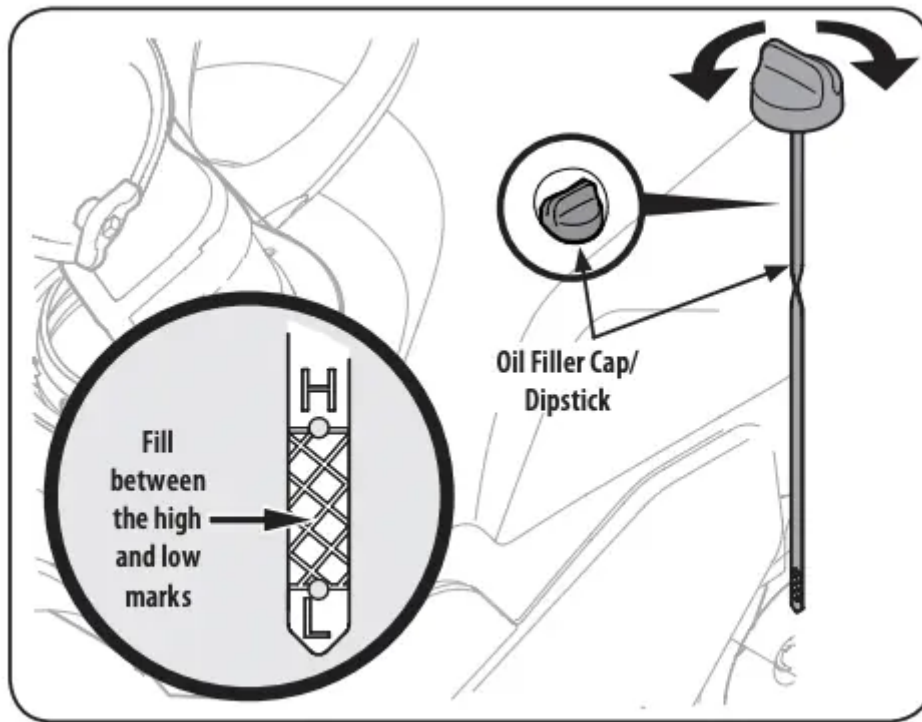
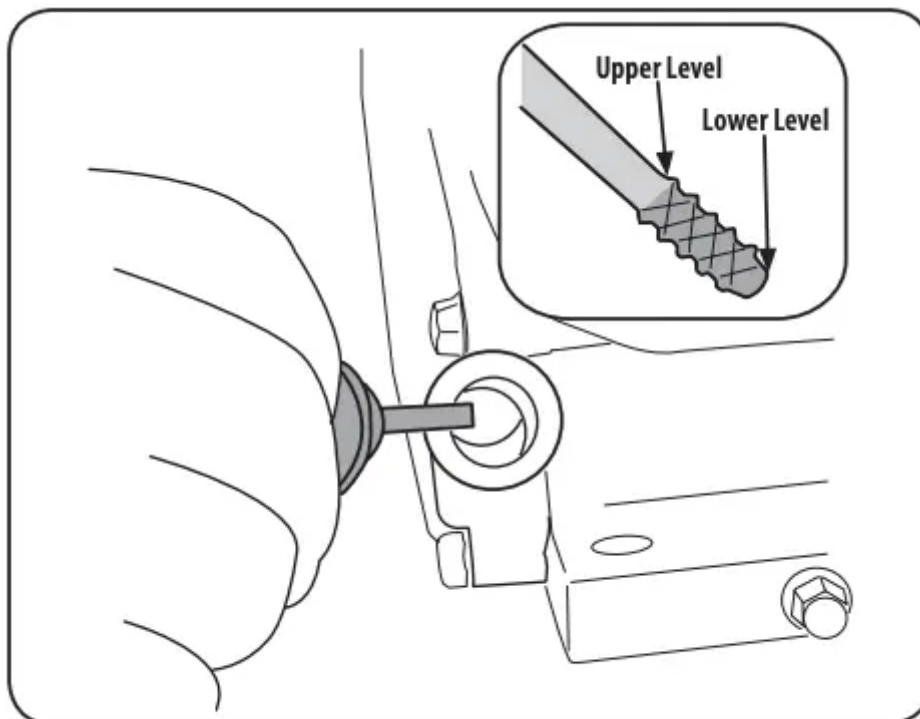

Figure 7
Figure 8
2. On some models the oil filler cap/dipstick can be accessed on the left side of the shroud. See Figure 7. On other models the oil filler cap/dipstick can be accessed at the rear of the snow blower. See Figure 8.